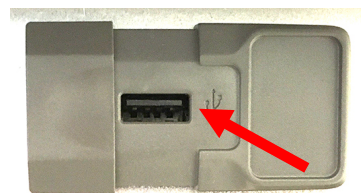
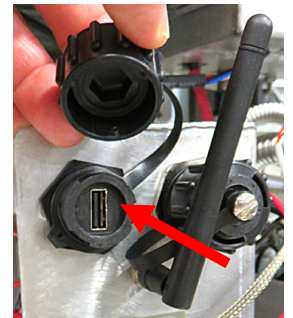

Figure 1
Figure 2
- If the installation kit included two (2) USB's then proceed to next step. **If the kit did not include USB's, skip to step 13.**
- Using the supplied USB drive labeled "BSP UPDATE", load the software files to the KCCM board using the KCCM USB port. The location may vary on the KCCM USB port extension. On some, the port is on the right side of the fryer (see Figure 1), on others it is located behind a protective cap, on the side of the FIB box (see Figure 2).